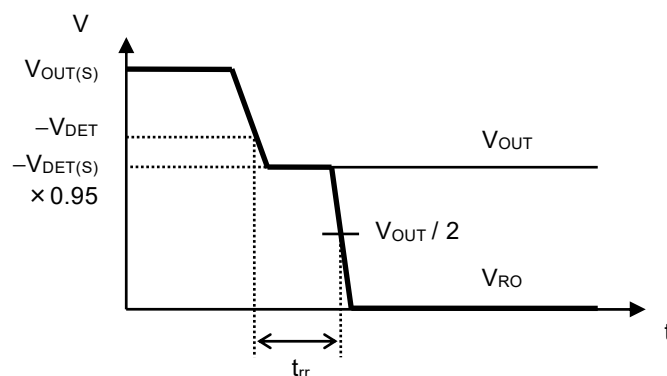

Figure 7 Reset Reaction Time
*4. The time from when V_{OUT} falls below $-V_{\text{DET}}$ to when the RO pin output inverts (Refer to **Figure 7**).